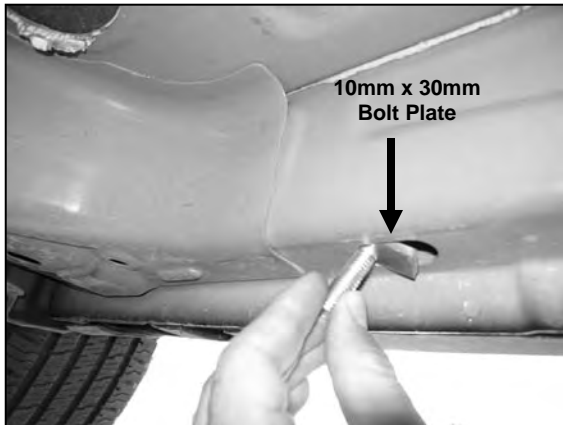

Figure 1
- From underside of vehicle, insert (1) 10mm x 30mm Bolt Plate into factory front hole on the passenger side panel (**Figure 1**).